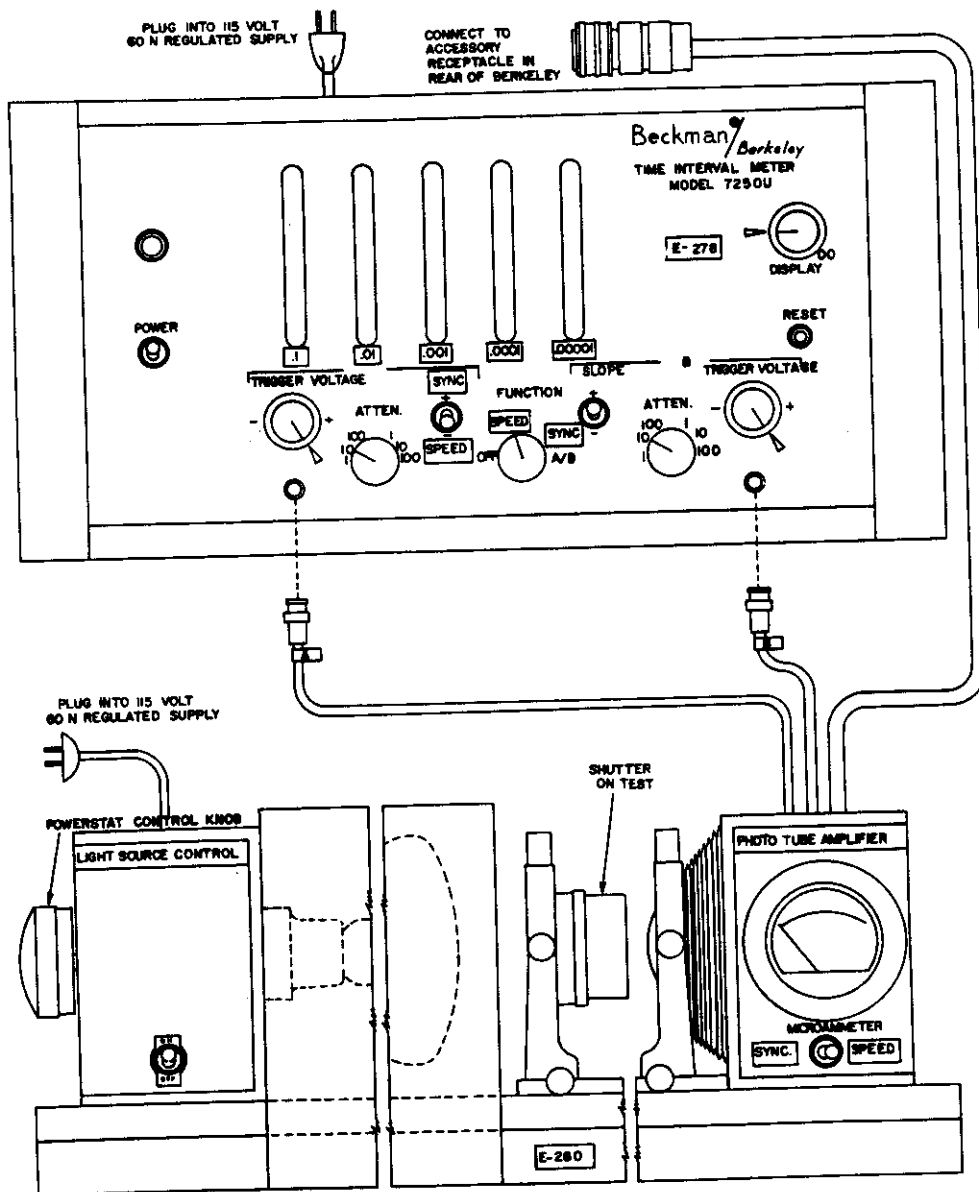

Figure 23. BERKLEY TIME AND INTERVAL METER
a. Test equipment (fig. 23)
- (1) Berkley time interval meter model 7250U
- (2) Light source control and photo tube amplifier